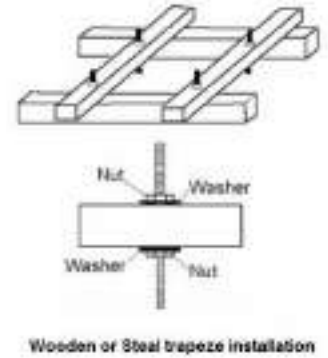

Figure 4
1. For ceiling installation mark position of suspension rods, water pipes, condensate drain, power supply cables, etc. Supporting rods can be fixed, depending on the type of ceiling, as shown in Figure 4.
2. The casing is fixed to the slab with four (4) threaded rods. The rods should have two (2) nuts and washers to lock the unit in position when using a wooden or steel "trapeze style hanger". See Figure 4. Installing contractor may choose to use a field supplied, vibration elimination solution on the hanging rods.